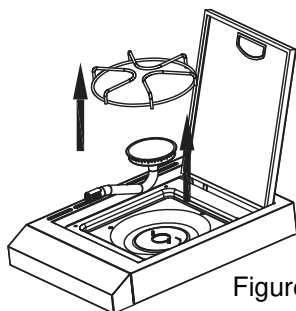

Figure 2
- Attach the Cylinder Fixture (22) through the installed Cylinder Fixture Support (21) in Figure 2.